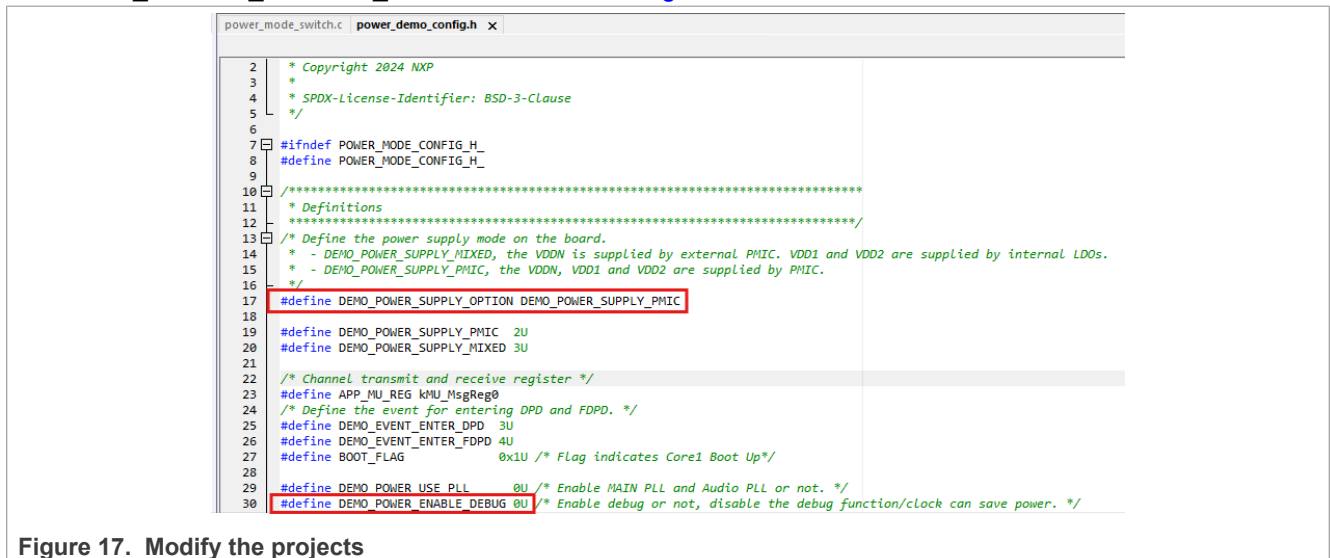

Figure 17. Modify the projects
2. Select the "debug_target", and modify the **DEMO_POWER_SUPPLY_OPTION**, and **DEMO_POWER_ENABLE_DEBUG** as shown in Figure 17.
- Ensure that you do the same changes in `power_demo_config.h` in secondary project, as shown in Figure 17.